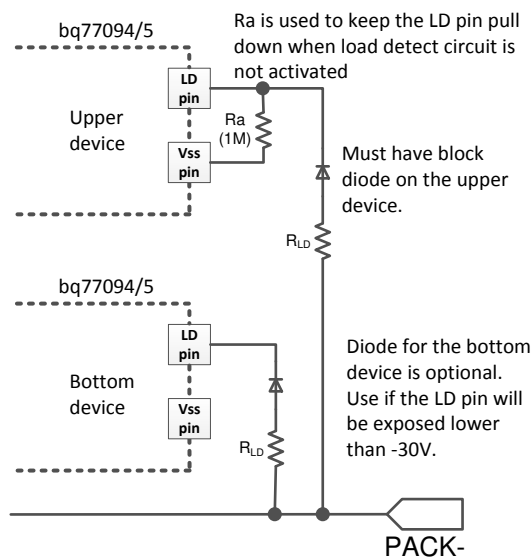

图 9-7. Simplified Circuit: LD Connection on Upper Device When Using for UV Fault Recovery
- If load removal is not used for UV recovery, connect the upper device LD pin to its AVSS pin, as shown in Figure 8-9 and Figure 8-10. Otherwise, refer to Figure 9-7 for proper LD connection.
To ensure load removal is detected properly during a UV fault, TI recommends to use $3.3\text{ M}\Omega$ for R_{GS_CHG} (instead of a typical of $1\text{ M}\Omega$ when load removal is NOT required for UV recovery). R_{CHG} can stay in $1\text{ M}\Omega$ as recommended when using CHG FET protection components. The CHG FET rise time impact is minimized as described in the Protecting CHG FET section. On a stacked configuration, connect the LD pin, as shown in Figure 9-7 if load removal is used for a UV fault recovery. If load detection is not required for a UV fault recovery, a larger value of R_{GS_CHG} can be used (that is, $10\text{ M}\Omega$) and the LD pin on the upper devices can be left floating.